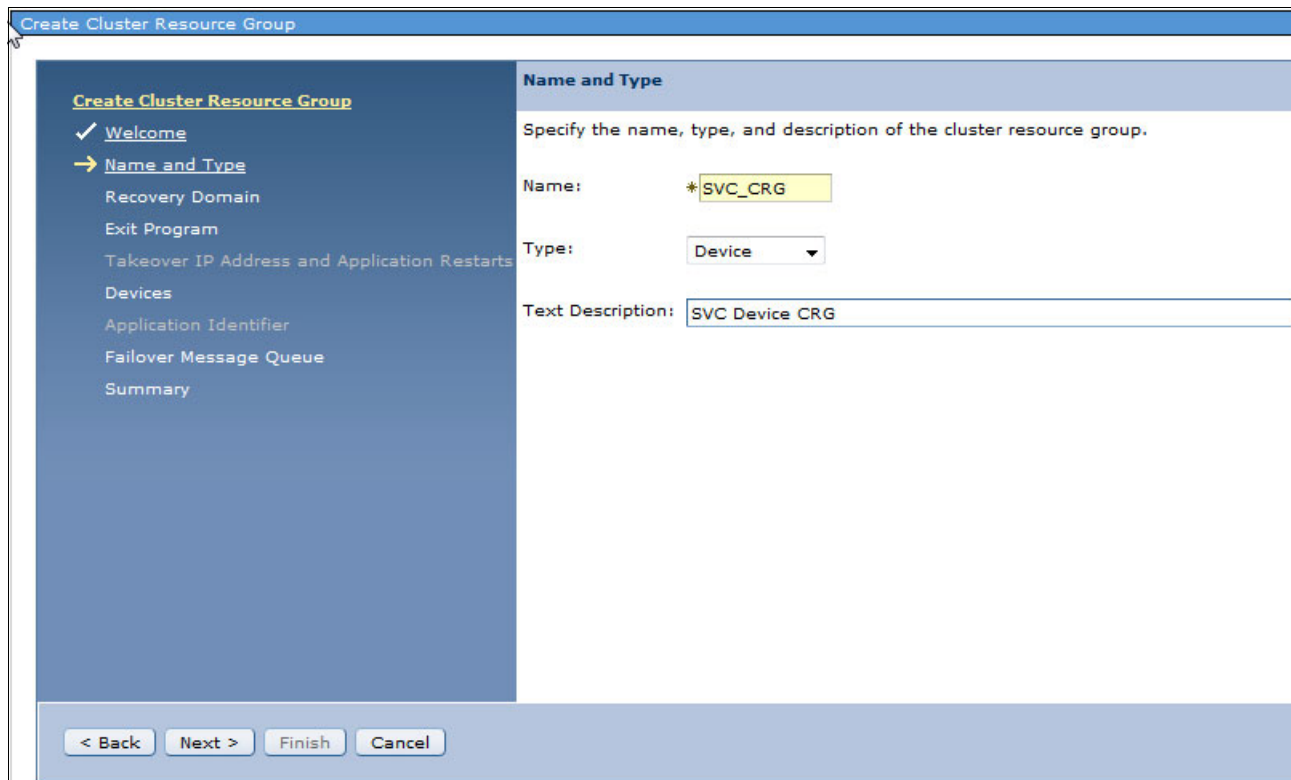

Figure 4-23 Create Cluster Resource Group, specifying the name and type
20. In the Create Cluster Resource Group Name and Type panel, specify a name for the cluster resource group. The type must be **Device**, as shown in Figure 4-23, because you want to switch an IASP device that uses this cluster resource group. Click **Next**.